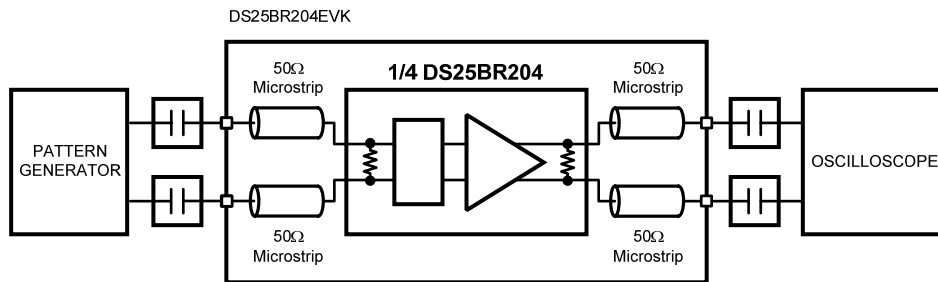

Figure 3. DS25BR204 Test Setup Example
This section provides recommended test setup procedure for the device evaluation. Figure 3 depicts a typical setup and instrumentation you may use for the device evaluation.
1. Configure the test setup as shown in Figure 3.